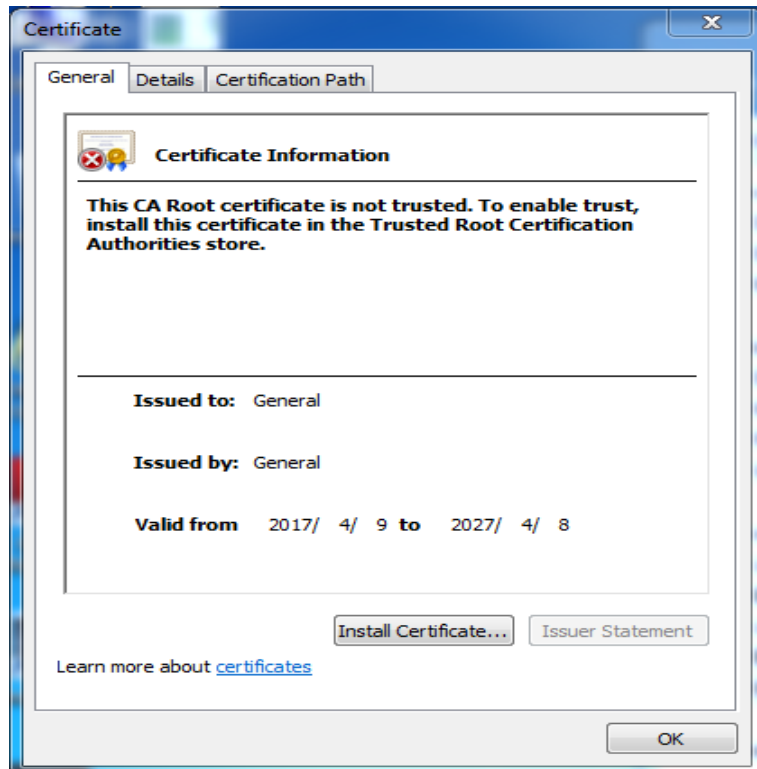

Figure 6-68
1. Double click  RootCert.cer . See Figure 6-68.